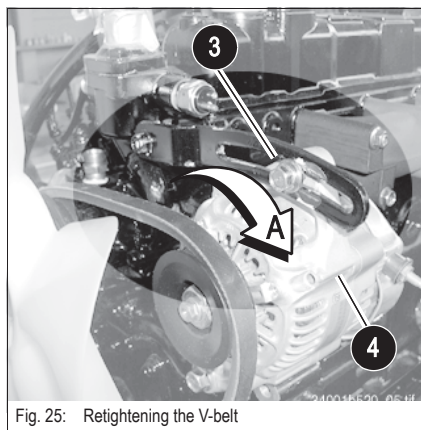

Fig. 25: Retightening the V-belt
- ☞ Use a suitable tool to push the alternator in the direction of arrow **A** until reaching the correct V-belt tension (fig. *Fig. 25*)